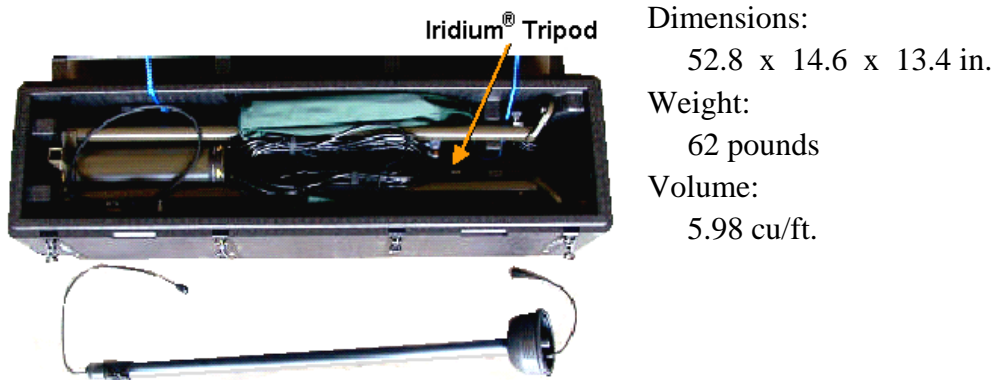

Figure 41. Case QTR102 Contents
5.2. Case QTR102 Contents. Figure 41 displays the contents and identifies the dimensions, weight and volume of Transit Case QTR102. Table 2 lists the contents of Transit Case QTR102.